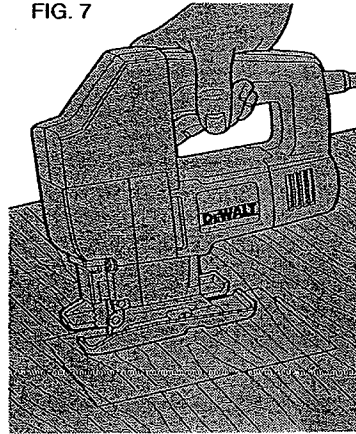

FIG. 7
- a. Lift the shoe lever on the bottom of the tool (A).
- b. Align the arrow on the housing with the line on the shoe Fig. 7.